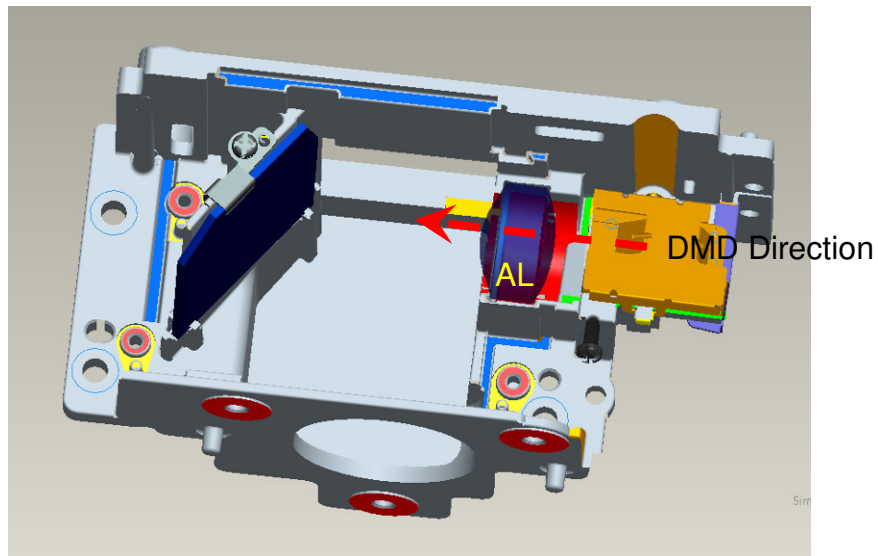

Fig. 4-3
4.3 Placed “AL” on the “HSG DMD”. The “raised surface” of “AL” shall toward “DMD direction” (Fig. 4-3).